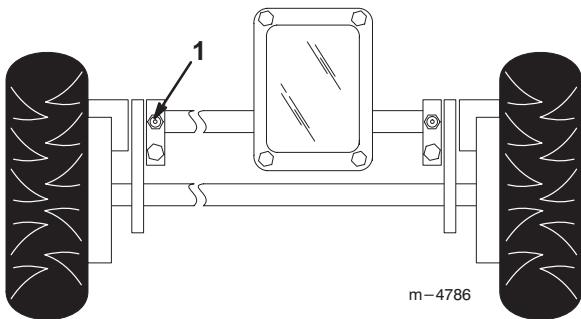

Figure 29
- Wipe the grease fittings with a clean rag (Fig. 29).